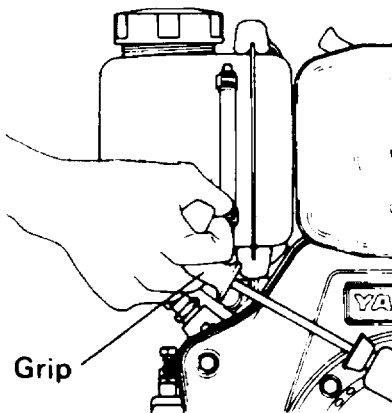

Figure 2-3 Starting the engine
- e. Start the engine by pulling the recoil starter rope (see Figure 2-3).